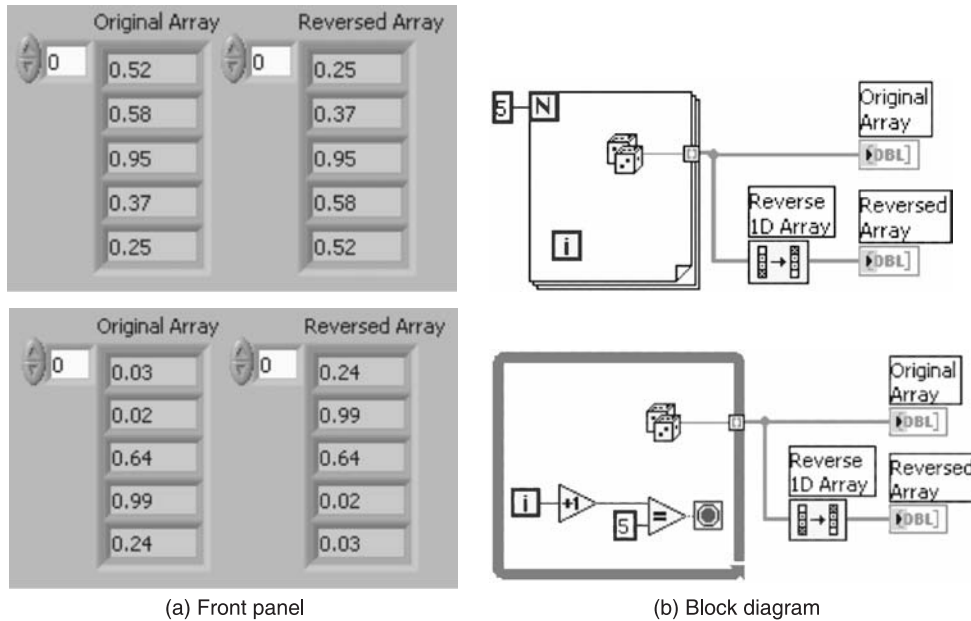

Figure P5.2
**Solution** The front panel and the block diagram to create a 1D numeric array from loops are shown in Figures P5.2(a) and P5.2(b).